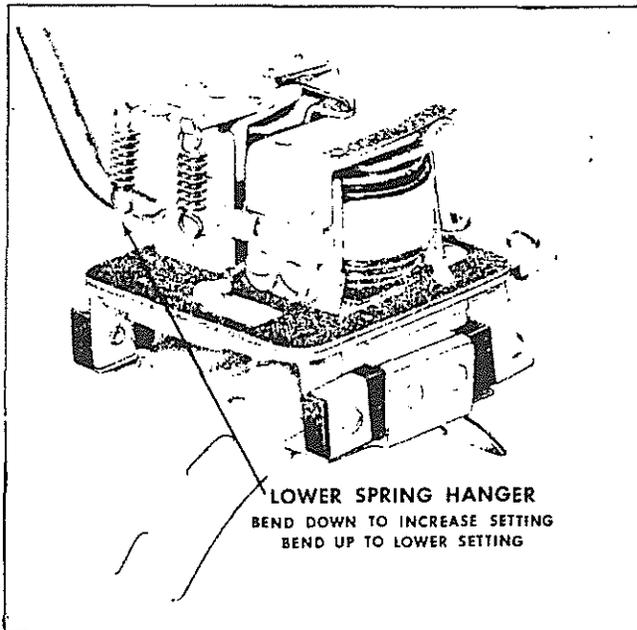

Figure 12. -- Adjusting voltage setting of current-voltage regulator unit (1118200 series).
**VOLTAGE SETTING (1118200 Series) --** Check voltage setting as described under Regulator Electrical Checks. Adjust by bending the lower spring hanger of one spring (Fig. 12). Bend down to increase the voltage setting, or bend up to lower the setting. After each adjustment, set cover in place before checking setting. Confine adjustment to one spring only. If the unit is badly out of adjustment, refer to section headed Regulator or Spring Replacement.